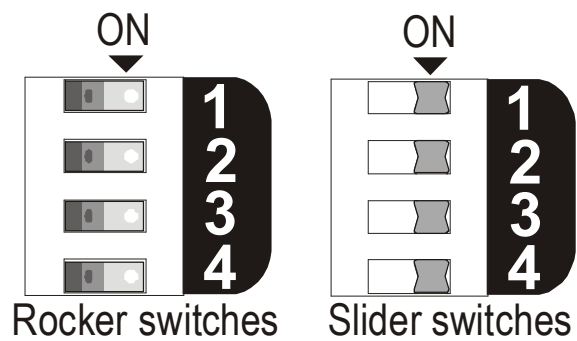

Fig. 3.13) Dip switches – supplied either with rocker or slider switches
7) Set the dip switches on the top of the camera unit, using a small screwdriver. Refer to Fig. 3.13).